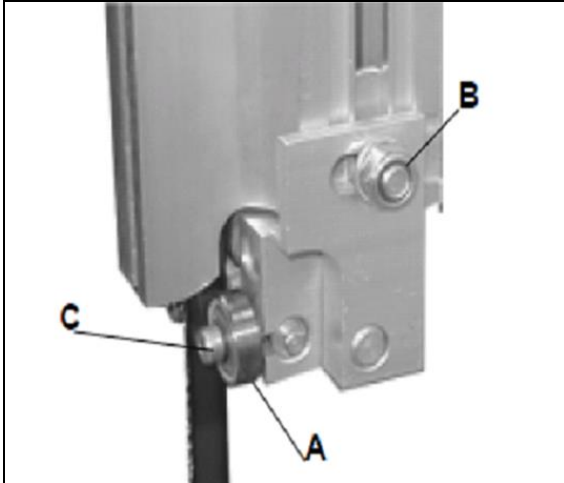

Fig 24
Loosen the hex nut (B, Fig 24) and position the guide assembly forward/ backward so that the teeth keep a distance of appr. 2mm to the lateral guide rollers (A).